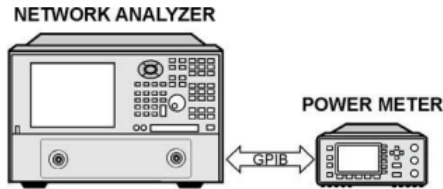

Figure 4-1 Operator's check setup
- 1 Connect the PNA-X Series network analyzer and the power meter as shown in Figure 4-1.